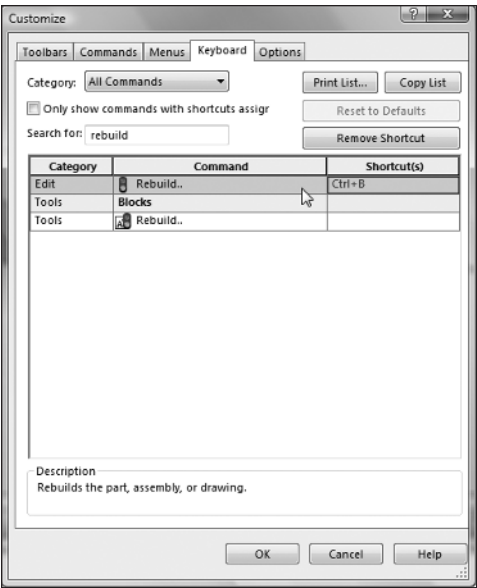

FIGURE 1.30 Assigning a Keyboard Shortcut to a Command
4. Type the name of the command that you wish to assign a shortcut to in the Search For field. For this example, Rebuild is added to this field. All the commands shown in the window will be filtered out except for the commands that match what is typed in the Search For field. See Figure 1.30.